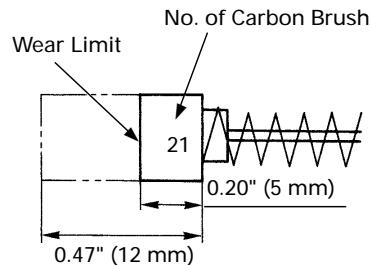

Fig. 8
4. Inspecting the carbon brushes (Fig. 8)
NOTE: Use HITACHI carbon brush No. 21 indicated in Fig. 8.